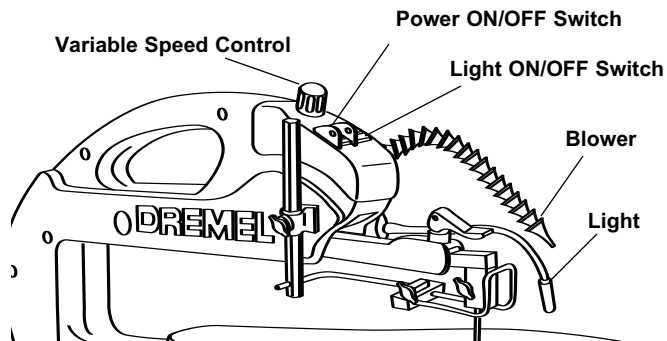

Figure 16. Adjusting the Lamp or Blower
Turn the power on or off using the Power ON (I) / OFF (O) switch (Figure 16).
Turn the lamp switch to ON (I). Position the lamp as needed to illuminate the workpiece (Figure 16).
Position the blower as needed to blow-off sawdust from the workpiece (Figure 16).
Turn the control to vary the speed of the saw, disc sander and other optional attachments (Figure 16).